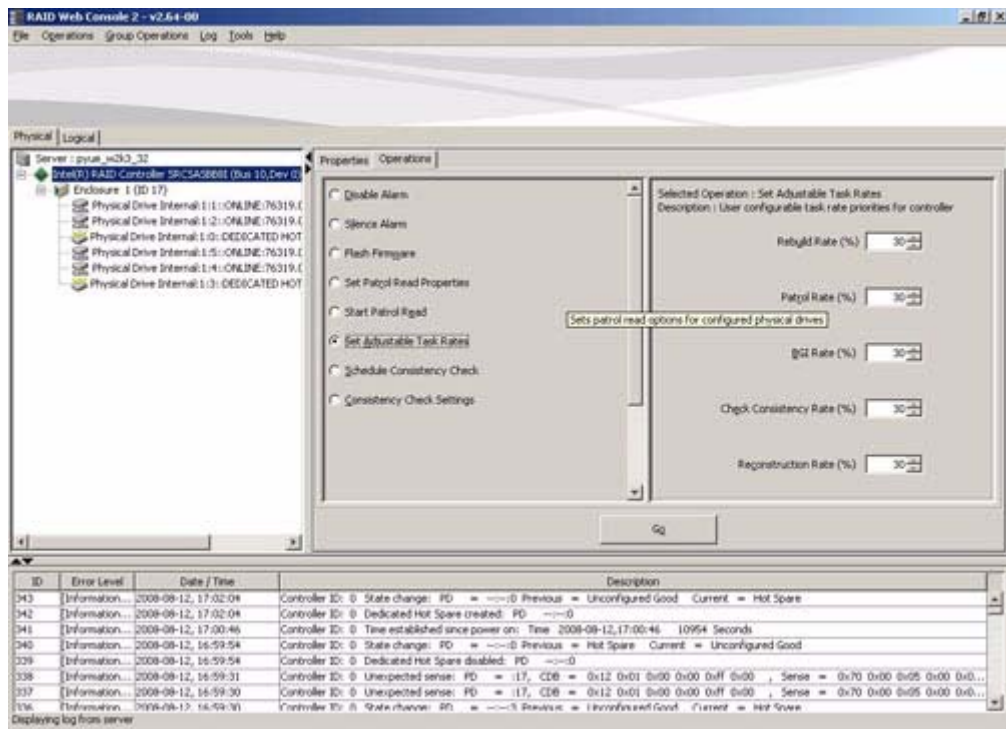

Figure 57. Set Adjustable Task Rates
2. In the right panel, select the **Operations** tab and select **Adjustable Task Rates**. The task rates appear at the right, as shown in Figure 57.